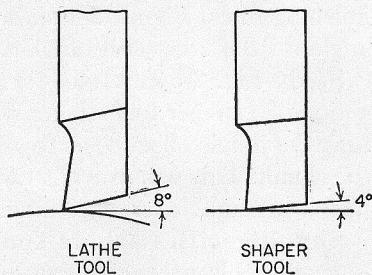

Fig. 2-3. Comparison of front clearance angles of lathe and shaper tool bits.
**Clearance Angles.** There is no rocker in the tool posts of the shaper, hence the tool cannot be adjusted for clearance; the proper clearance angles must be ground on the tool. As shown in Fig. 2-3, the front clearance angle is 4 deg.